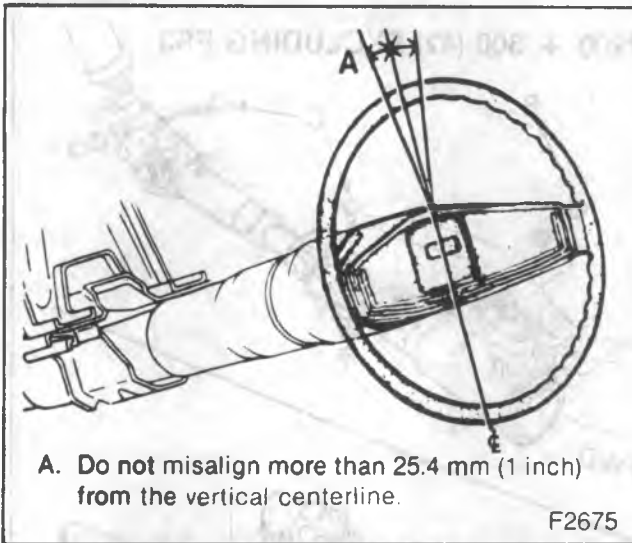

Figure 5—Steering Wheel Alignment
Install or Connect (Figure 5)
- Do not misalign the steering wheel more than 25.4 mm (1-inch) from the horizontal centerline (figure 5).